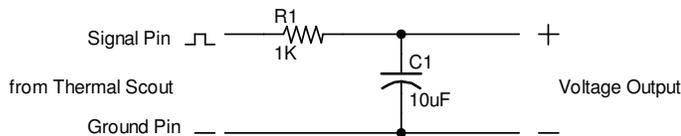
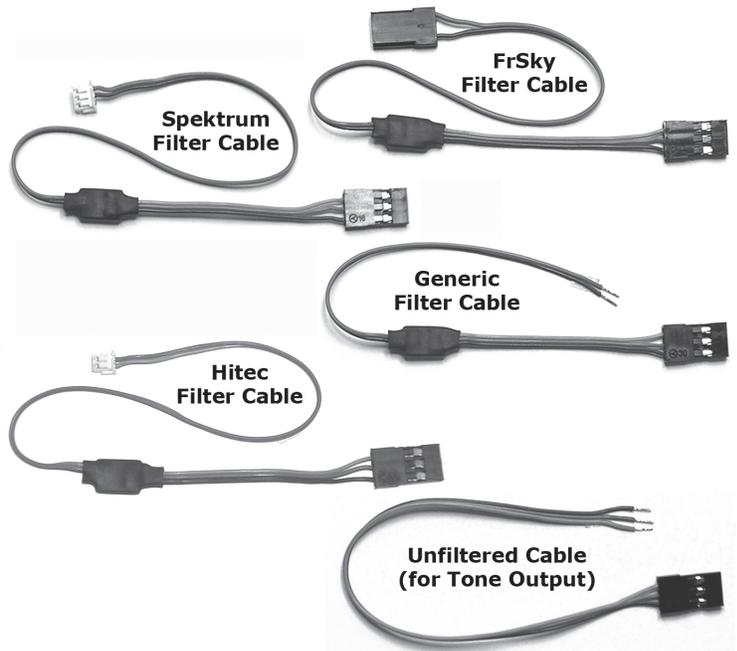

Figure 1. PWM-to-Voltage Filter
Figure 4. Cables available at www.WingedShadow.com
Since the output of the *Thermal Scout* is in digital form, it cannot directly output an analog voltage. It actually produces a 10.4KHz digital signal that varies in duty cycle. This is known as pulse-width modulation (PWM). This PWM signal is converted to a voltage using a simple Resistor/Capacitor (RC) filter. An external 1K ohm resistor and a 10uF capacitor must be added. You can construct this yourself using the schematic in Figure 1 or purchase an adapter cable with the filter circuit built in. We sell ready-to-use filter cables with connectors for popular telemetry radios. (See Figure 4.)